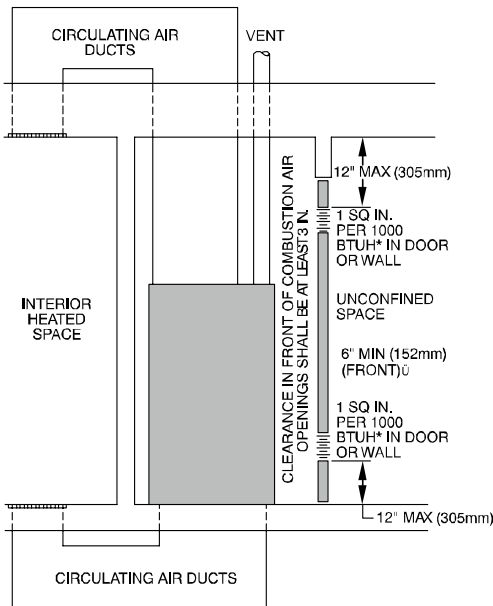

Fig. 7 – Air for Combustion, Ventilation, and Dilution from Indoors L12F013
- b. Combining spaces on same floor level. Each opening shall have free area of at least 1 in.²/1,000 BTUh (2,000 mm²/kW) of the total input rating of all gas appliances in the space, but not less than 100 in.² (0.06 m²). One opening shall commence within 12 in. (300 mm) of the ceiling and the second opening shall commence within 12 in. (300 mm) of the floor. The minimum dimension of air openings shall be at least 3 in. (80 mm). See Fig. 7.